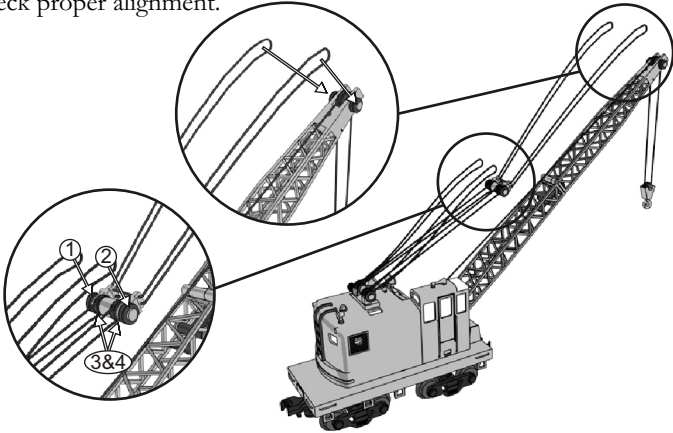

Figure 5. Re-aligning the cables on the sheaves
- **If the cables have come loose, do not start pulling on them, as that can cause further disarray.** If they have simply fallen off the sheaves that allow them to lower and raise the boom/hook, simply realign them as shown and put them around the appropriate sheaves. (see Figure 5)